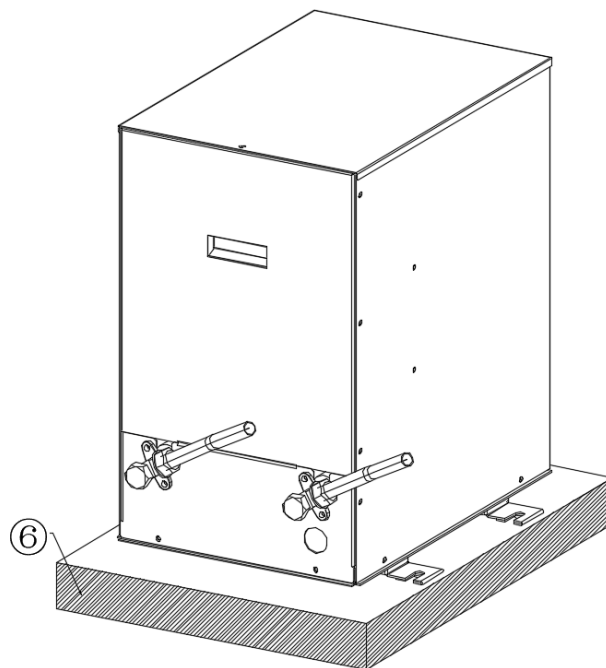

Fig. 2-5 Schematic diagram of installation of cryogenic components
5. Refer to Fig. 2-5 for the installation diagram of the cryogenic components of the outdoor unit.